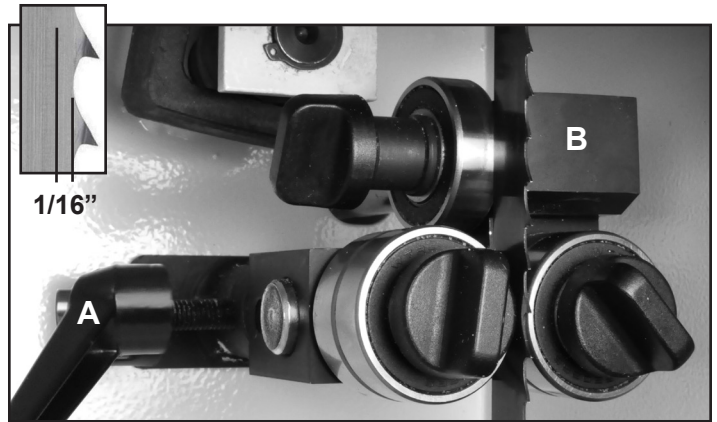

FIGURE 26
2. The guides should be approximately 1/16" behind the gullets of the saw blade. If they need to be moved, loosen the Lock Handle (#47A, Fig. 26, A), located to the left of the Lower Guide Block (#44A, B), and move this block that holds the guides so that the guides are properly positioned behind the blade gullets. Re-tighten the lever handle when done.